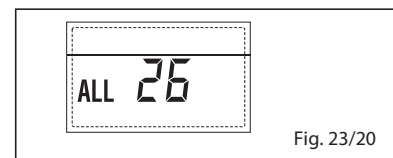

Fig. 23/20
- ANOMALIA COERÊNCIA APLICAÇÕES SOLAR "ALL 27" (fig. 23/21)